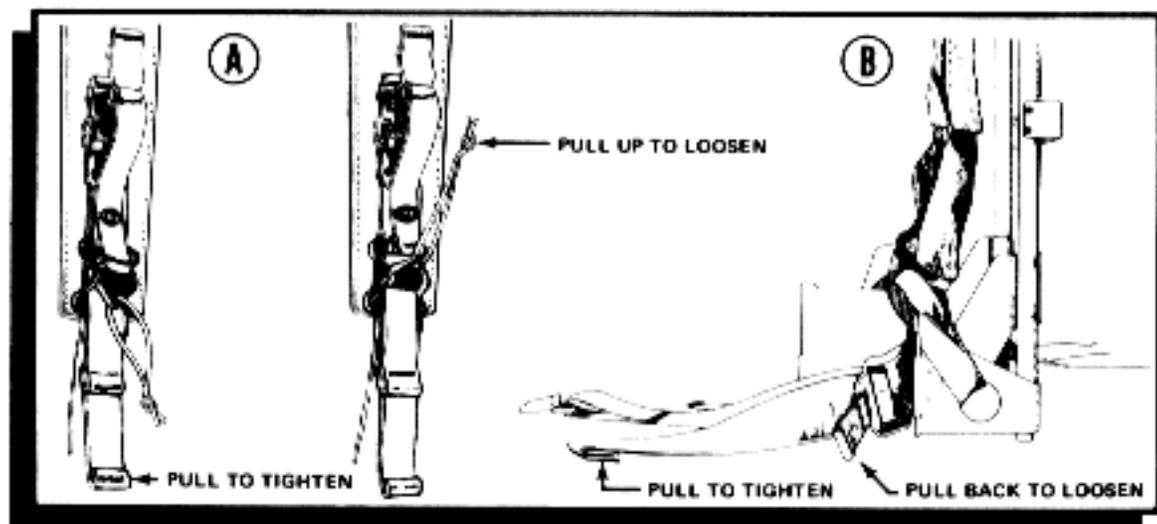

Figure 4-24. Adjusting shoulder and waist strap.
- Insert the webbed strap on the shoulder pad through the metal keeper on the top of the pack frame (B). Make sure the padded side faces inward.
**Attaching Waist Straps to Pack Frame.** The waist straps are threaded through the buckles on the outside of the lower back strap (C). The strap with the male buckle goes on the left side. The strap with the female buckle goes on the right side.
**Adjusting Shoulder and Waist Straps.** Adjust the shoulder and waist straps (figure 4-24) after you have put on the frame with the load you are going to carry. Each set of straps has adjustment buckles.
**Shoulder straps.** To lift the load on your back, shorten the strap by pulling down on the loose end of the webbing (A). To lower the load, lengthen the strap by pulling up on the cord.
**Waist strap.** To tighten the waist strap, pull the loose end of the strap on either side forward (B). To loosen the waist strap, pull the web strap on either buckle to the rear.